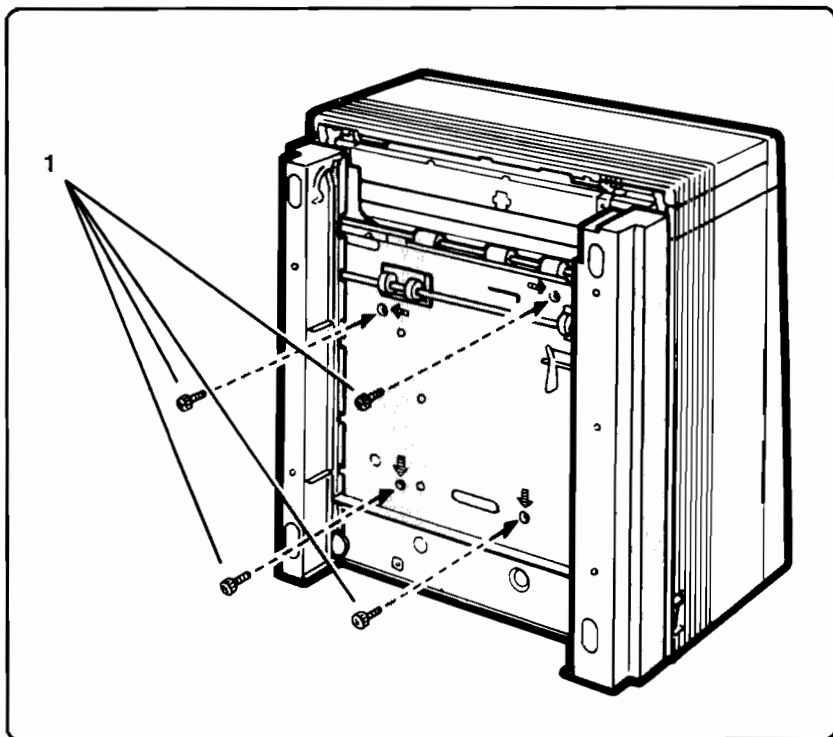
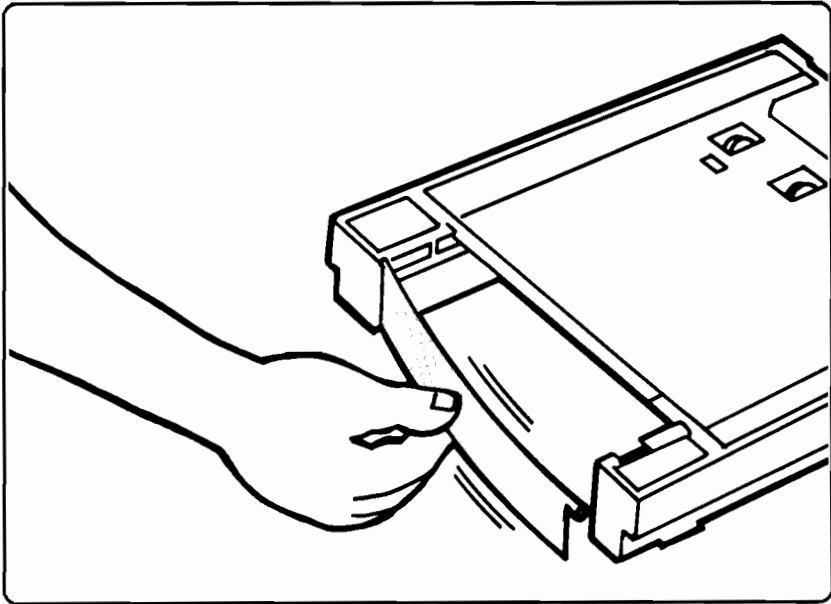

Figure 6-5. Lower Cassette Base Removal
Figure 6-6. Cover Stop Removal
2. Tilt the printer up on its back end (see Figure 6-5).
3. Remove the screws (4) securing the Lower Cassette Base to the printer (see Figure 6-5, callout 1).
1. Pull out on the center of the Cover Stop, bowing it slightly to remove the stop (see Figure 6-6).
1. Remove the Lower Cassette Base Assembly (see Figure 6-5).
1. Remove the Lower Cassette Base Assembly (Figure 6-5) and the LC Base Cover Stop (Figure 6-6).